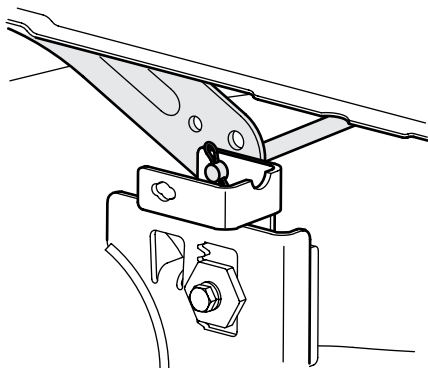

Figure 4-12
- Looking at the cutting deck from the left side of the rider, locate the bow-tie pin that secures the deck support rod on the rear left side of the deck. See Figure 4-12. Remove the bow-tie pin that secures the deck support rod, and carefully remove the deck support from the deck lift arm.